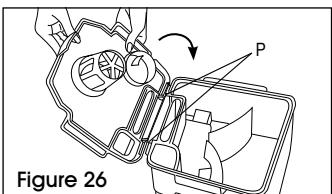

Figure 26
3. The lid replaces in a hinge-like manner. Position the front of lid under tabs (P) on front of tank. Rotate lid down onto tank. Make sure that the lid is secure on all sides before placing tank on cleaner. For full suction, it is important that the recovery tank lid is properly secured before cleaning. (See Figure 26)